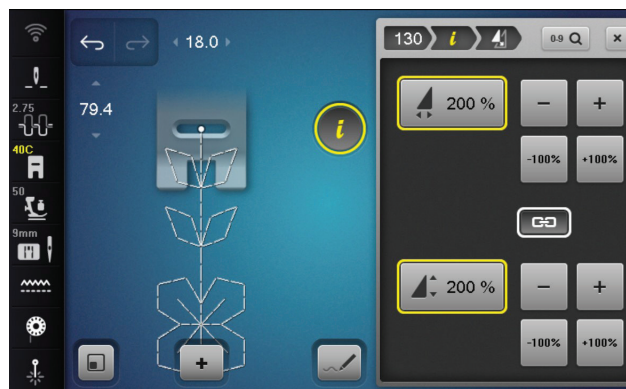

Fig. 26
3.  Select Fit to Screen. Notice the start point, the white dot, and the end point, which is a red cross (Fig. 26).